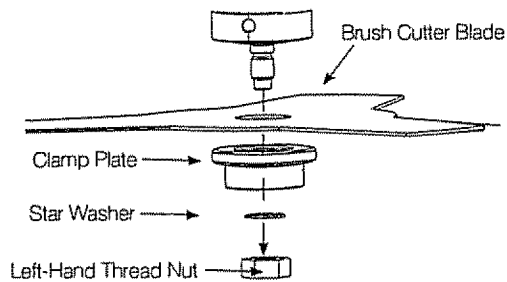

Fig 40
3. Remove in the sequence shown (Fig. 40).
- For reassembly, install all components in the correct sequence ( Fig. 40).